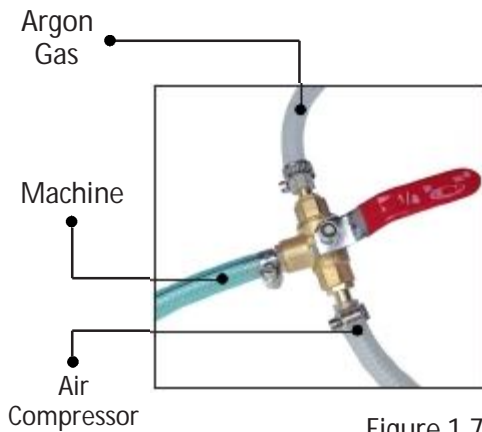

Figure 1.7
a) If you switch from plasma cutting to TIG welding quite often, consider buying a LOTOS 3 way valve kit to connect both the argon tank (Figure 1.7) and the air compressor simultaneously.